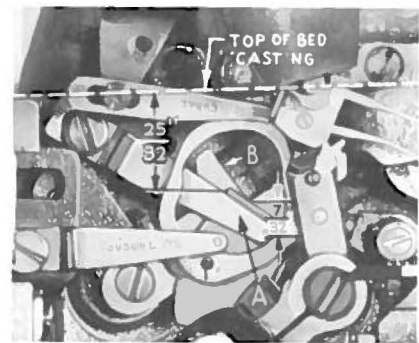
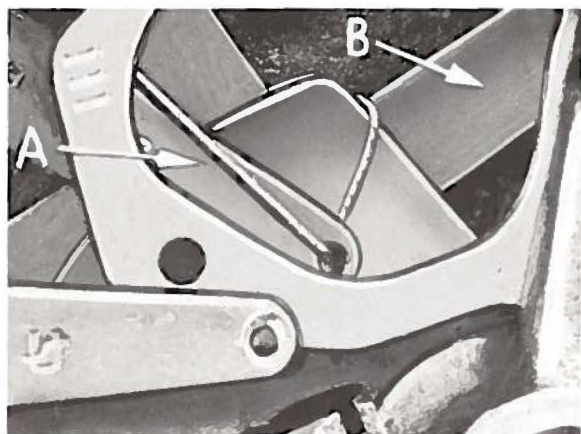
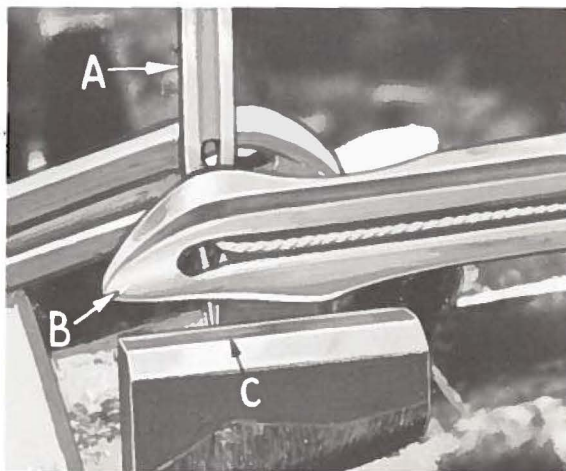

Fig. 20
Fig. 23
Fig. 24
If looper thread casting-off point has not been timed refer to the paragraph "Timing 401 Stitch Looper Thread Cast-off". Set the looper thread cast-off eyelet (A, Fig. 20) $7/32$ inch below crotch of cast-off blade (B). Pull several feet of thread through the looper to provide slack while checking the tension. Turn handwheel in operating direction until the needle is totally raised. Pulling the thread straight toward the operator, over the looper thread eyelet, adjust tension with the knurled nut (AA, Fig. 1) to $1\frac{1}{2}$ to 2 ounces.
The tension of the looper thread at this position will be determined by the nature of the material being sewn and the operation performed. To increase the amount of looper thread pull-off move the looper thread cast-off blade (B, Fig. 23) slightly down. Use reverse procedure to obtain less looper thread pull-off. There is a notch in the cast-off blade to facilitate this movement with a screwdriver.
When the 401 looper thread cam is correctly positioned on the needle arm shaft the cast-off corner will be $25/32$ inch vertically below top surface of the bed when the needle arm is in its highest position (Fig. 20). This adjustment is made at the factory, but if checked and moved, it must be observed that the cam functions as a thrust collar for the needle arm shaft and correct thrust must be maintained. If this setting is correct the casting-off may be timed. On the down stroke of the needle (A, Fig. 24), looper thread should be cast-off when the eye of the looper (B) brings the looper thread against the left side of needle (Fig. 24). At this position the point of the needle will be approximately $1/64$ inch below the top of front needle guard (C). To change the time of casting-off, move the cast-off blade (B, Fig. 23) up or down, rotating it about its holding screw.